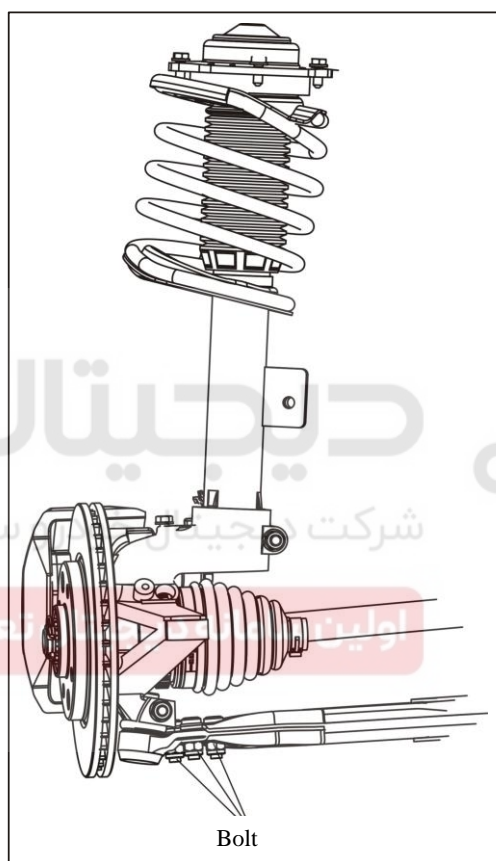

Figure 4-89 Remove Rocker Arm Ball Joint
(5) Remove the rocker ball joint fixing bolt (as shown in Figure 4-89), and then remove ball joint from the rocker.